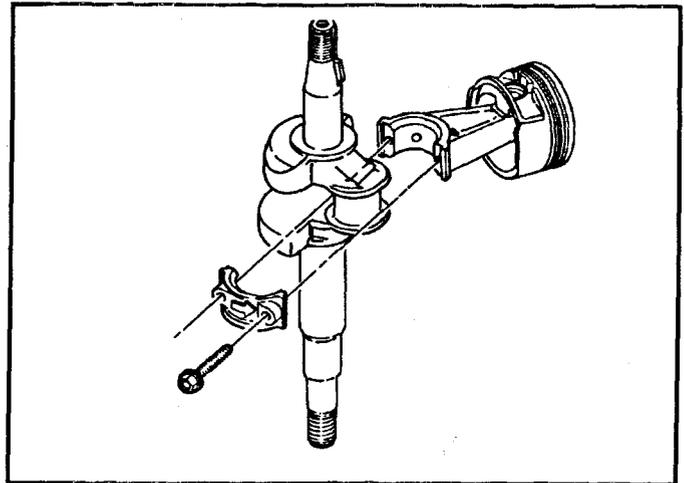

Figure 70
2. Pull the rod cap off the crankshaft connecting rod journal and push the piston and connecting rod out of the way of the crankshaft. See Figure 70.